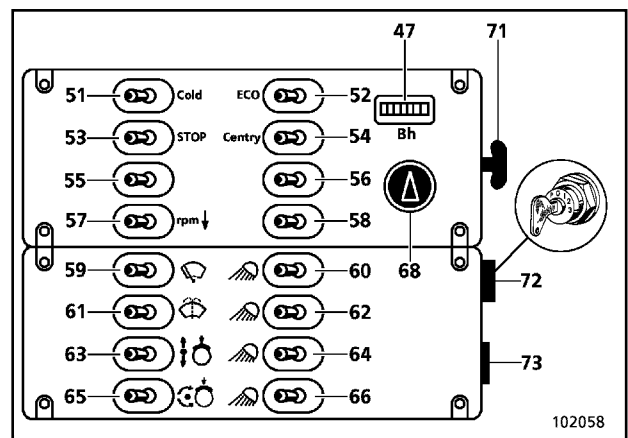

Fig. 3
- Press toggle switch (57, Fig. 3) to the left.